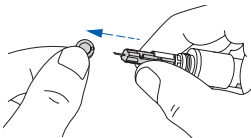

Figure 21
**STEP 3:** Remove the protective cap from the lancet by twisting it and then save it for later use. *See Figure 21.*